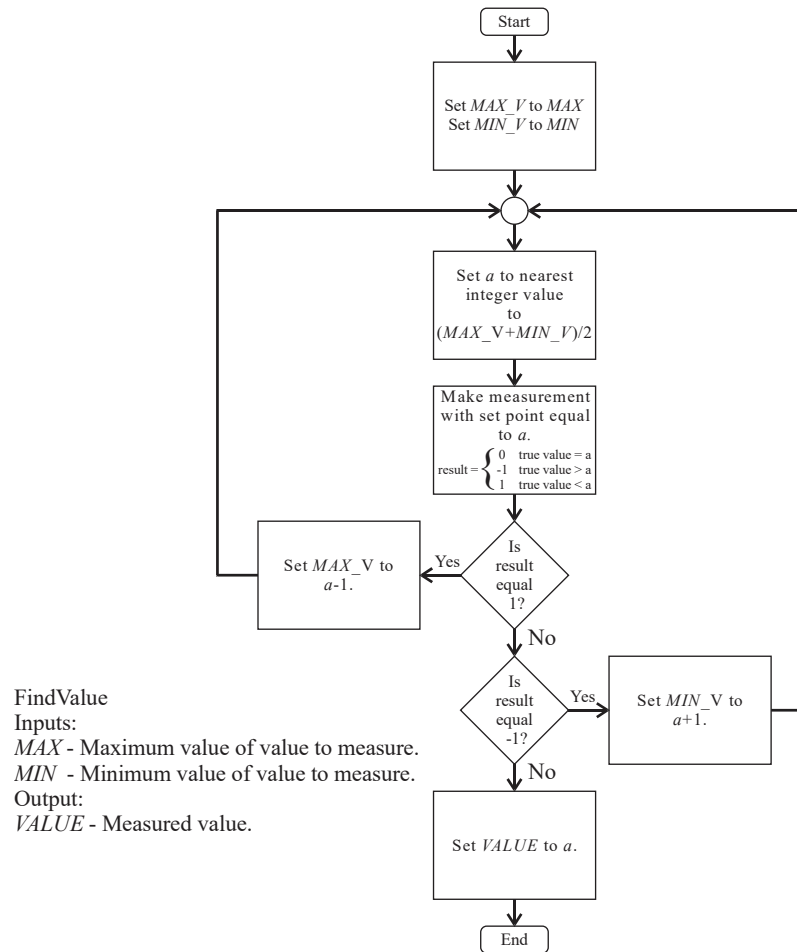

Figure 3: Flow Chart of Algorithm to Find Value from Crude Measurements
With this selection of measurement point, after the measurement the length of the range of possible temperature values will shrink by a factor of about 2 if the measurement point does not match the true value. You can then refine the *MIN* and *MAX* values to match your new knowledge of the range of possible values and repeat the process. An algorithm to find the temperature is shown in Figure 3 as a flow chart.
4. Modify the code to implement the algorithm described in Figure 3.